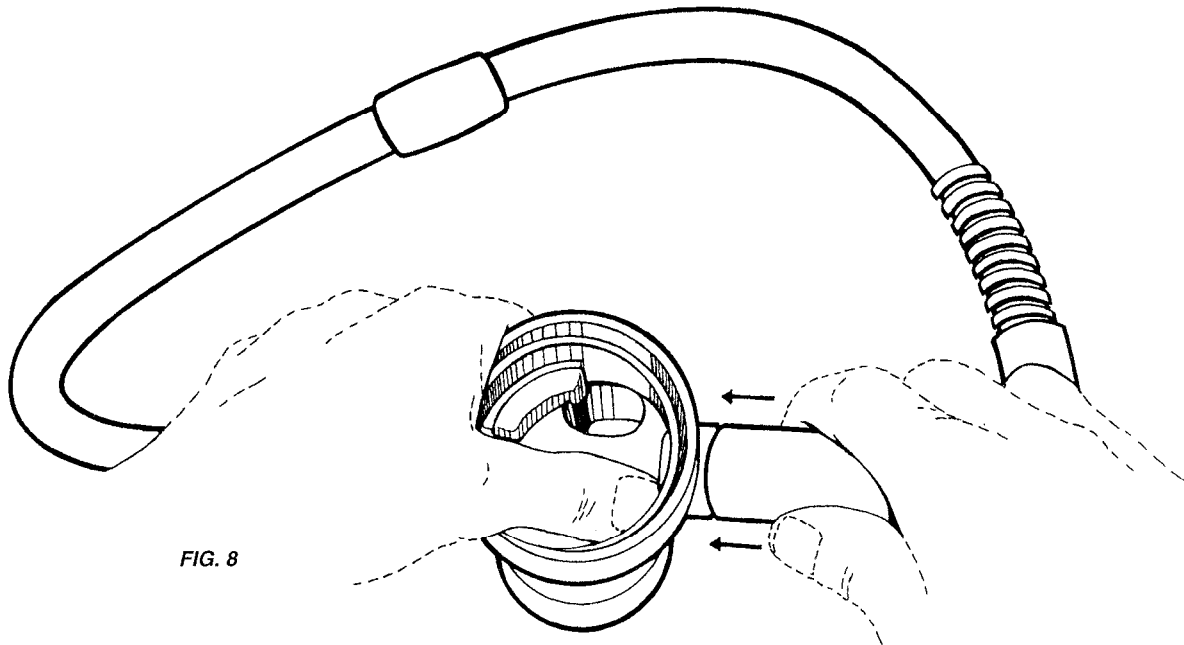

FIG. 8
4. Correctly insert the adjustment body (128) in the 2nd stage case (32).
5. Position O-Ring (83) in the 2nd stage case (32), using tool (B-6). (Fig. 8)